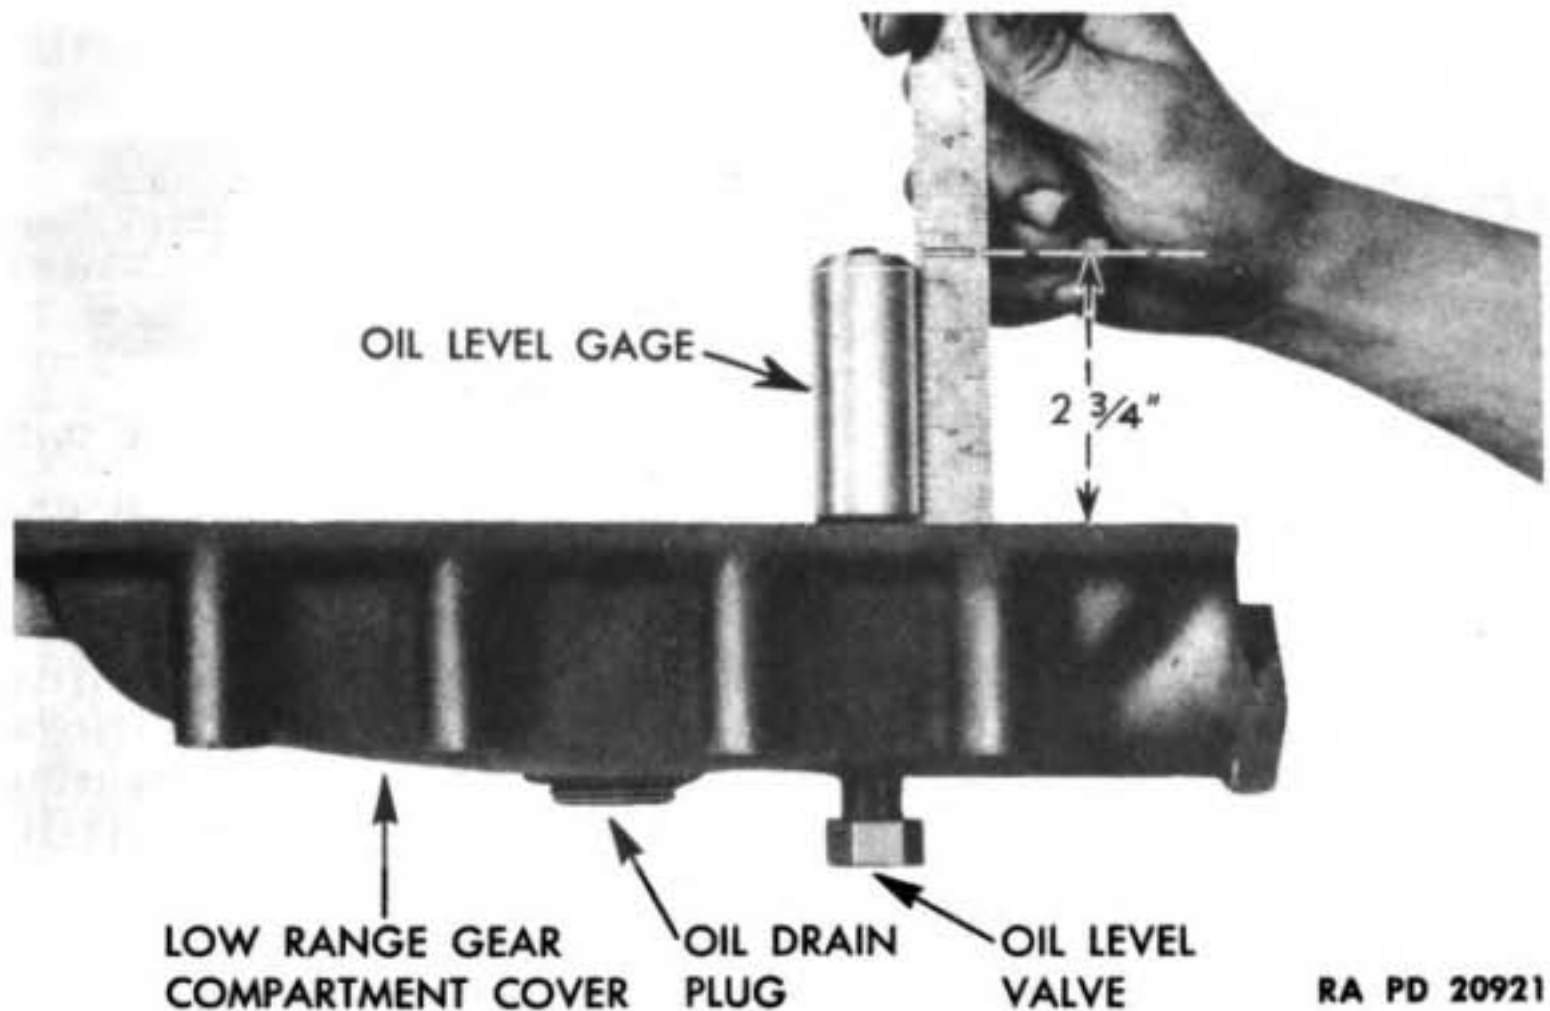

Figure 193 — Checking Oil Level Gage
(7) **CLUTCH GEAR REDUCTION UNIT OIL LEVEL GAGE** (fig. 193). Inspect oil level gage to make sure it is tight and securely staked or welded to cover, and that it extends 2 3/4 inches above machined surface on clutch gear reduction compartment cover. **NOTE:** On vehicles with serial No. 818 and above, the gage will be welded